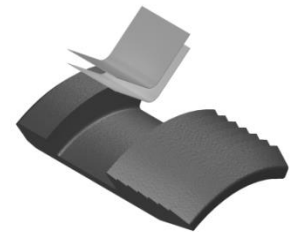

Fig. 6
**NOTE12:** Install two (2ea) springs per slip (Fig. 6).